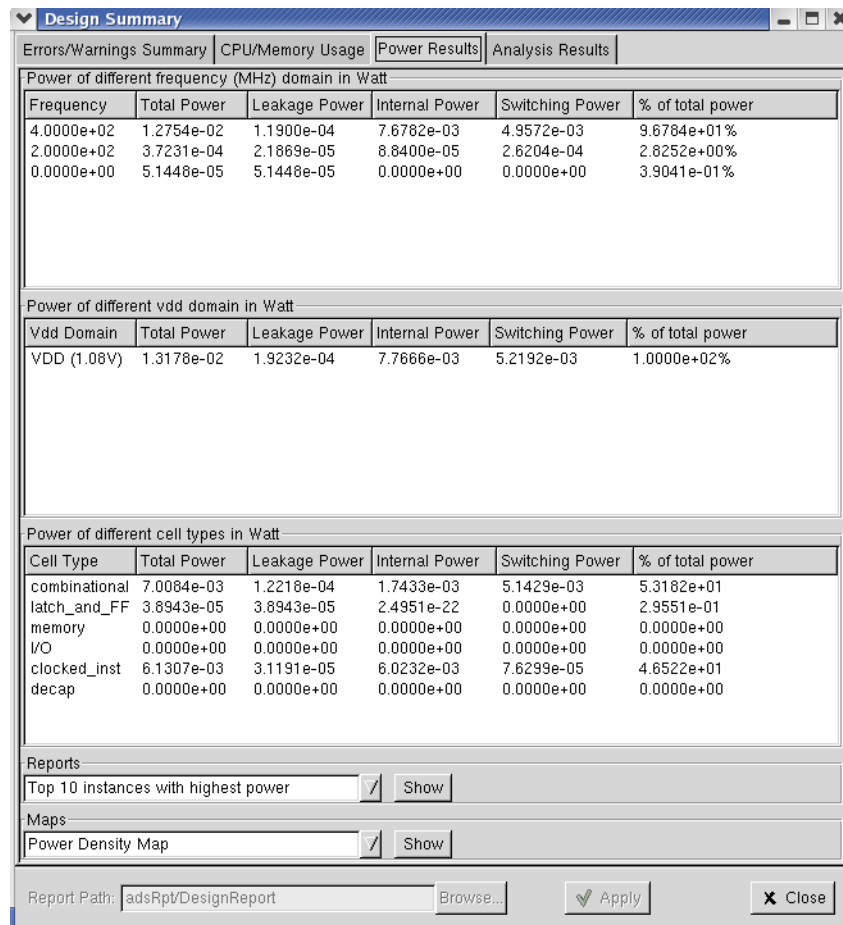

Figure 6-2 Power Calculation dialog in Design Summary report
4. **Power Results.** Click on the Power Results tab and a dialog with information on **RedHawk** power calculation is displayed (in Watts), as shown in the example in Figure 6-2: